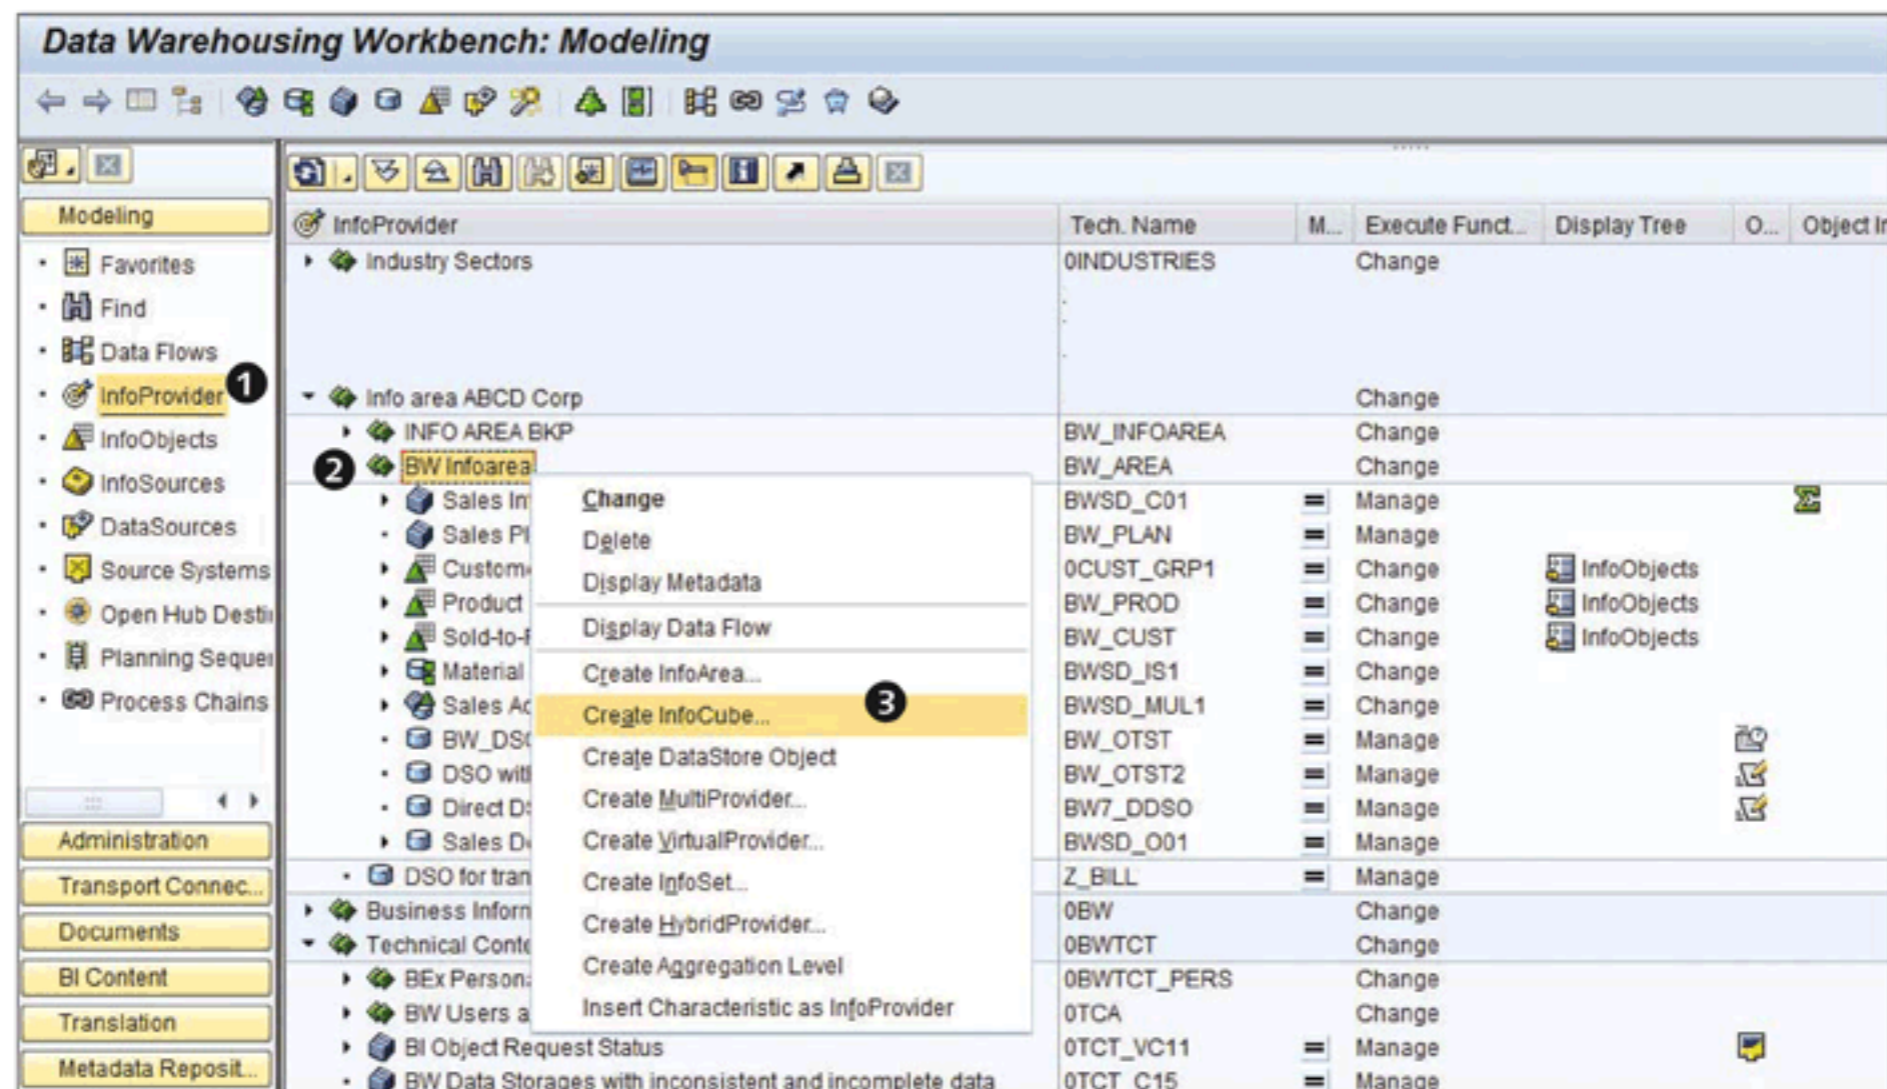

Figure 6.38 Create SPO: Part 1
An SPO is created in the DWW, which is started using Transaction RSA1. Select the INFOPROVIDER under MODELING from the navigator section, as shown in ❶ of Figure 6.38.